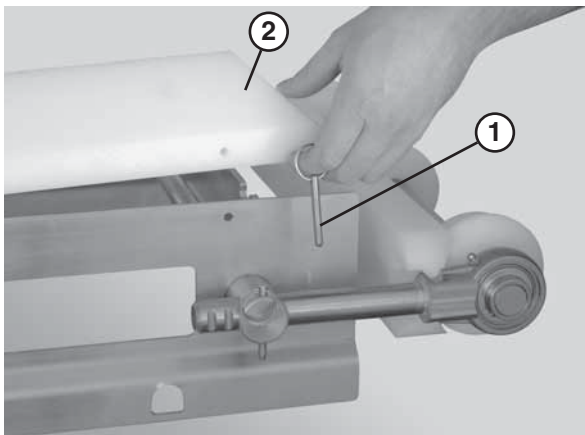

Figure 57
1. Remove the guides, if applicable, by removing the pull pins (Figure 57, item 1) that connect the guide (Figure 57, item 2) to the frame.
1. Remove the pull pins (Figure 57, item 1) that connect the guide (Figure 57, item 2) to the frame.